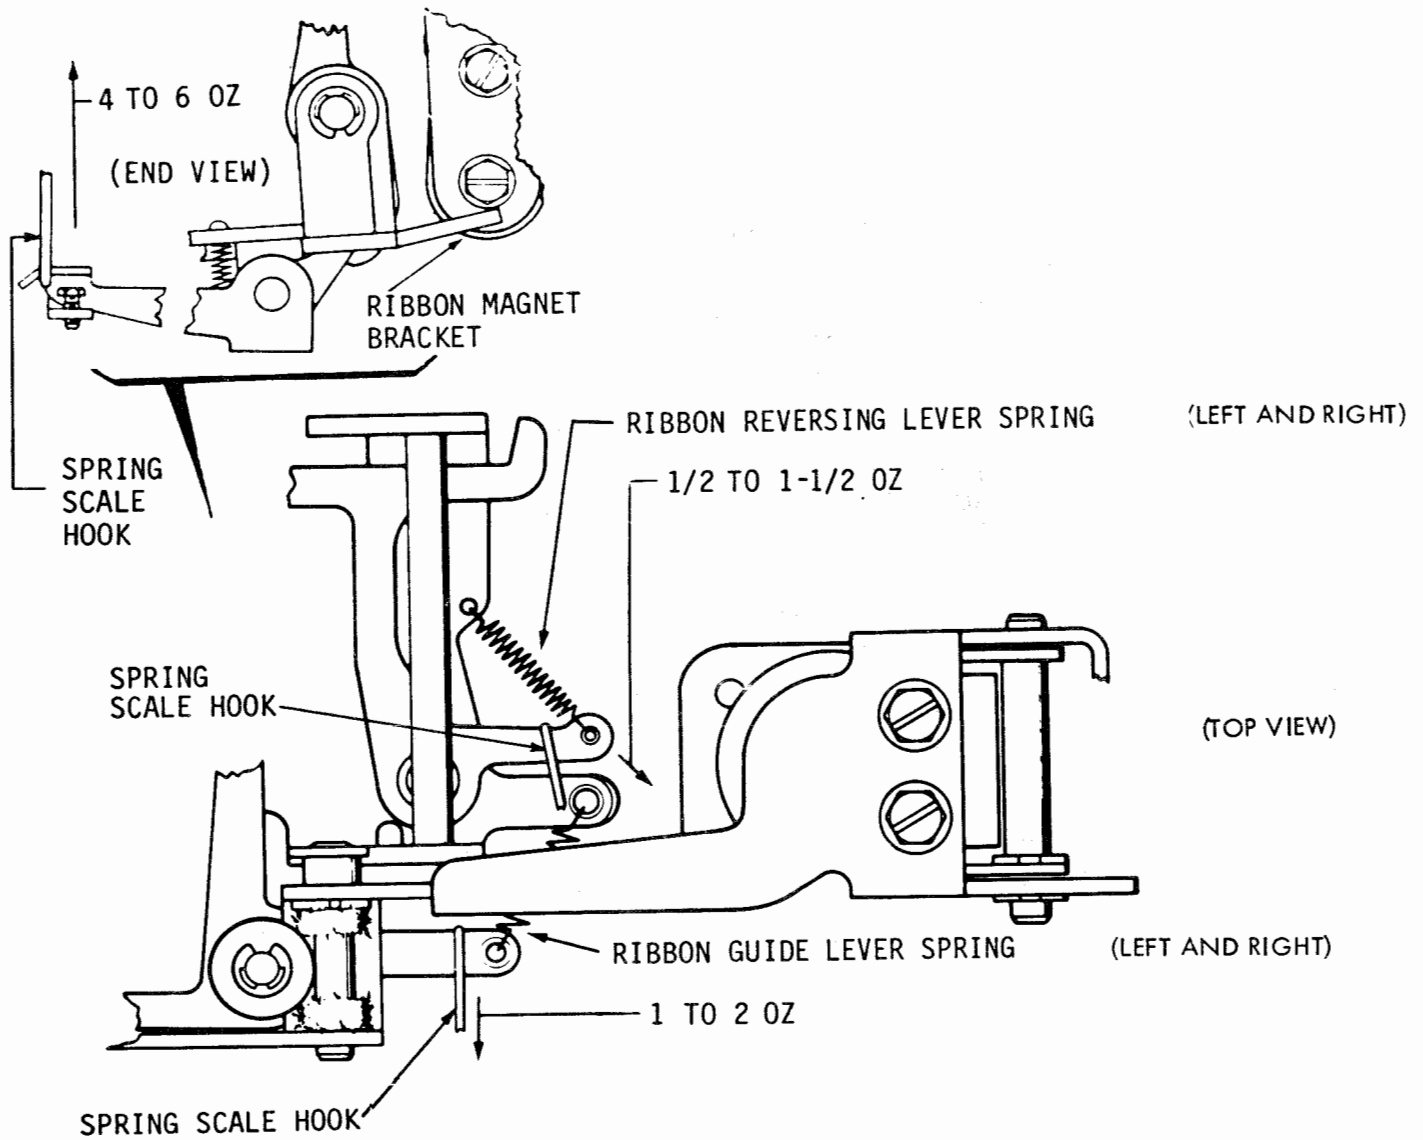
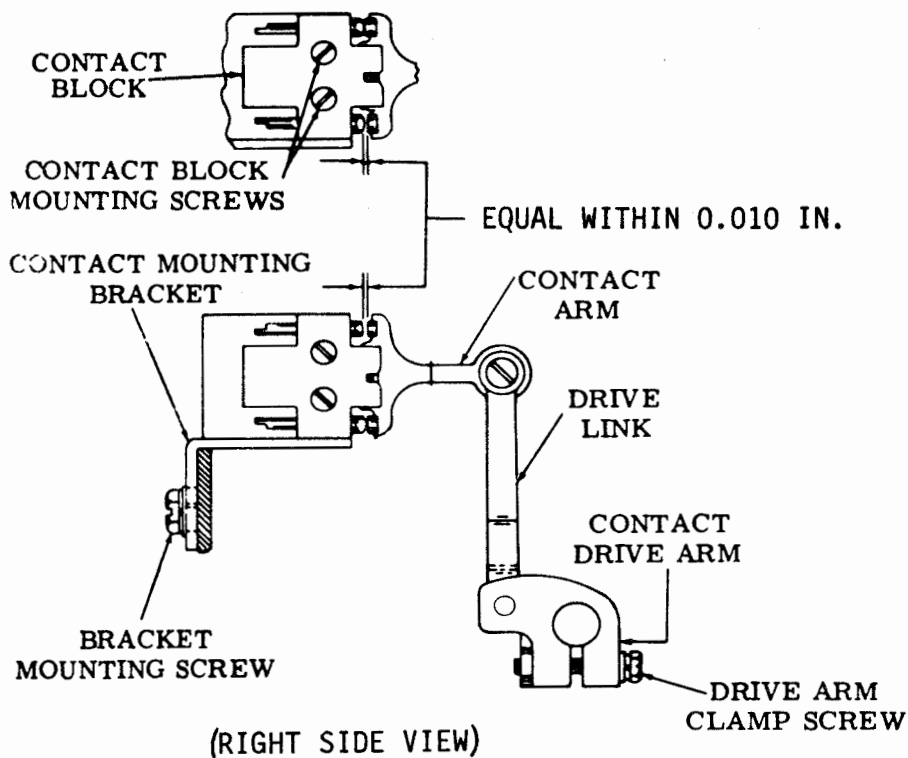

Figure 6-215. Ribbon Guided Lever Spring, Left and Right; Ribbon Reversing Lever Spring, Left and Right; and Ribbon Roller Bail Spring, Left and Right
Figure 6-216. Contact Mounting Bracket, Contact Block, and Contact Drive Arm Position
(6) Ribbon Guide Lever Spring, Left and Right. Adjust as follows:
- (a) Refer to figure 6-215.
(7) Ribbon Reversing Lever Spring, Right and Left. Adjust ribbon reversing lever spring as follows:
(8) Ribbon Roller Bail Spring, Left and Right. Adjust ribbon roller bail spring as follows:
- (1) Contact Mounting Bracket. Adjust contact mounting bracket as follows:
- (a) Refer to figure 6-216.
(a) Refer to figure 6-216.